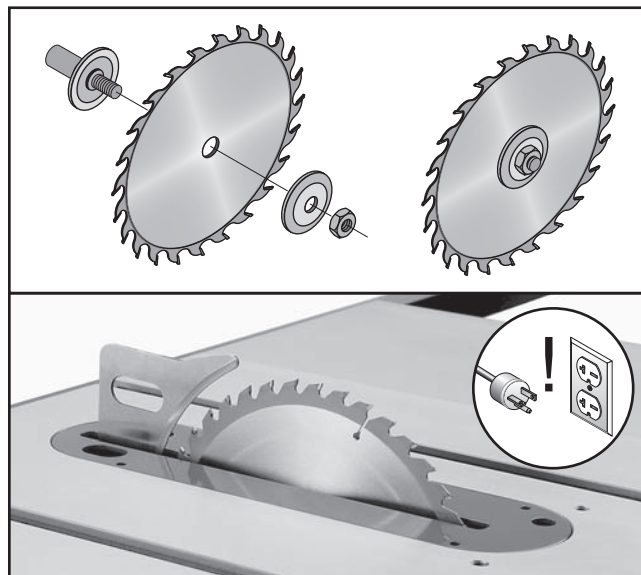

Figure 37. Blade order of installation and teeth facing the correct direction.
4. Slide the blade over the arbor with the teeth facing the front of the saw, as shown in Figures 37.